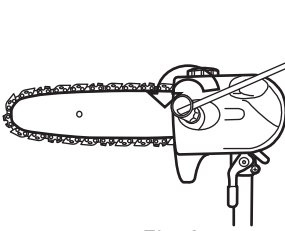

Fig. 6a
3. Loosen locking nut (D3) with the socket wrench (E4) anticlockwise and remove it together with the spring washer (D4) and cover (D2). (See Fig. 6a, 6b)